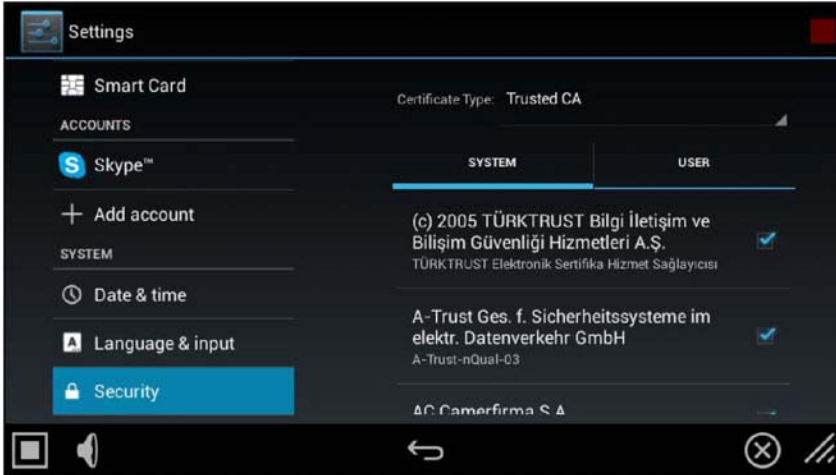

FIG. 104 Security page - Example Trusted Credentials list
2. The credentials detected on this panel are listed, organized by Certificate Type (FIG. 104):